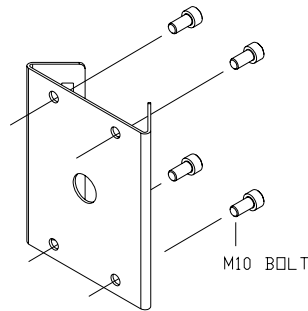

FIG.24
1. Fix the wanted bracket on the pole mount bracket with 4 ea of M10 BOLT before you install the pole mount bracket. (FIG.24)